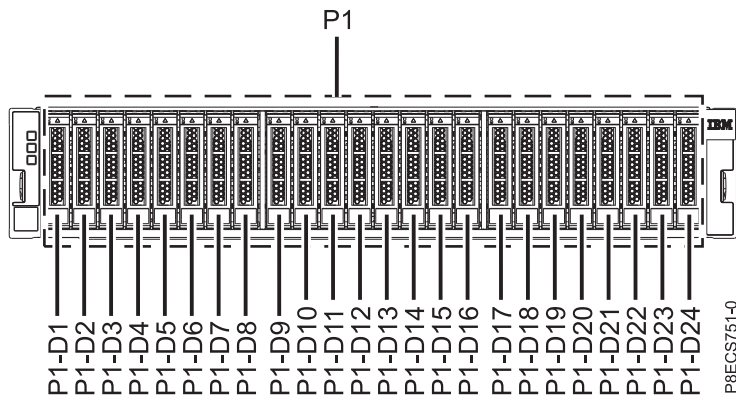
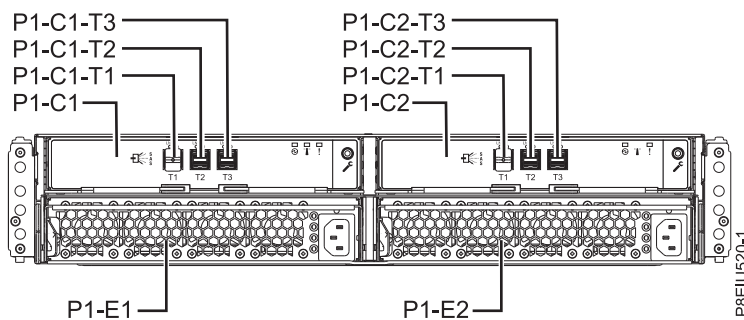
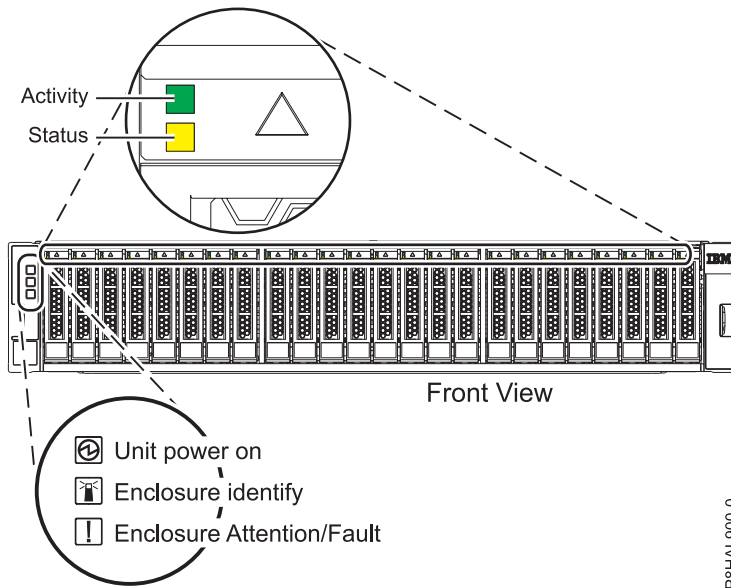

Figure 36. Front view of the ESLS storage enclosure showing the drive locations
Figure 37. Rear view of the enclosure
Figure 38. Front view of the ESLS storage enclosure showing the service indicators
5. Identify the part and the enclosure that you want to service. The disk drive and SSD slots are located in the front of the enclosure. Figure 36 shows the front of the ESLS storage enclosure, Figure 37 shows the rear view of the storage enclosure, and Figure 38 on page 34 shows the locations of the service indicators for the enclosure.